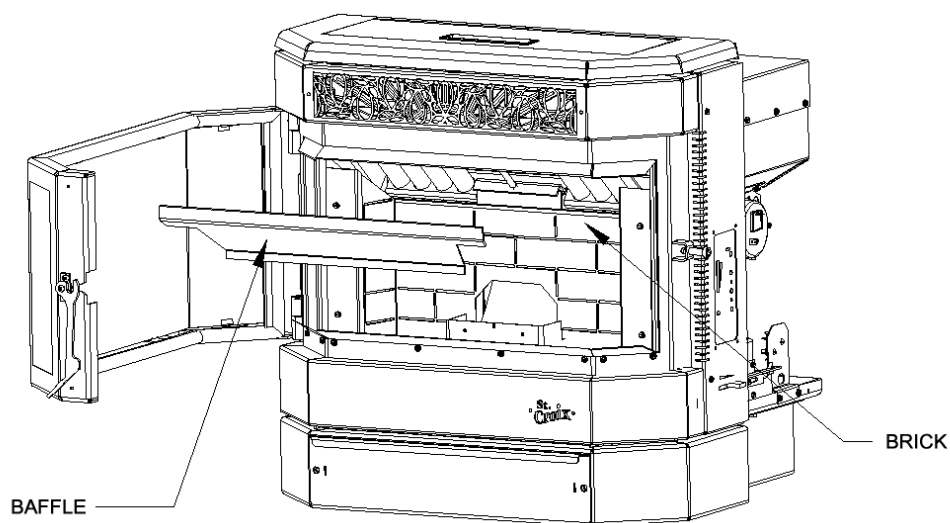

Figure 29
4. **Heat Exchange Baffle.** Remove the baffle and clean the ashes that accumulate on a regular basis. Once a month or sooner, depending on the quality of fuel being used (*See Figure 29*)